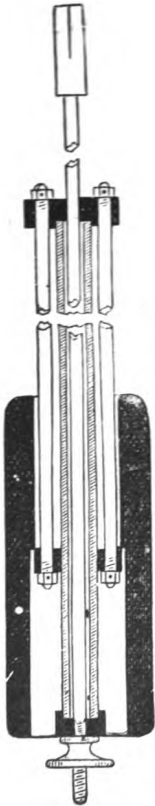

Fig. 1.
**Zinc Tube Compensation.**—Fig. 1 shows the construction of a zinc tube compensation pendulum, similar in principle to those employed in the Westminster clock and in the Standard sidereal clock at Greenwich. In the Greenwich clock the central rod and the outer tube are of steel and the bottom half of the hole in the bob is enlarged to bring the seat to the middle of the bob as in Fig. 1; the idea being that as the bob by reason of its greater bulk answers more slowly to changes of temperature than the other members of the pendulum, it should be neutral as far as the compensation is concerned. In the Westminster clock the rod and outside tube are of iron, and the bottom surface of the bob rests upon the collar of the outer tube. Preference is now generally given to the centrally supported bob, and I will therefore give a detailed example of a seconds pendulum on this plan, but with an iron outer tube as a steel one is not so easy to obtain. The rod of steel should be  $\frac{3}{8}$ -inch diameter and 46 inches long
Fig. 2 shows two side rods of steel substituted for the outer iron tube. They are of the same diameter as the central rod and pass through a brass cap at the top as shown. At their lower ends is a collar fitting loosely round the zinc tube to form a seat for the bob. In other respects, the pendulum is similar to Fig. 1, except that the zinc tube would be but 26 inches long. The zinc tube is coated with black varnish, and the pendulum altogether has, I think, a nicer appearance than those with outer tubes.